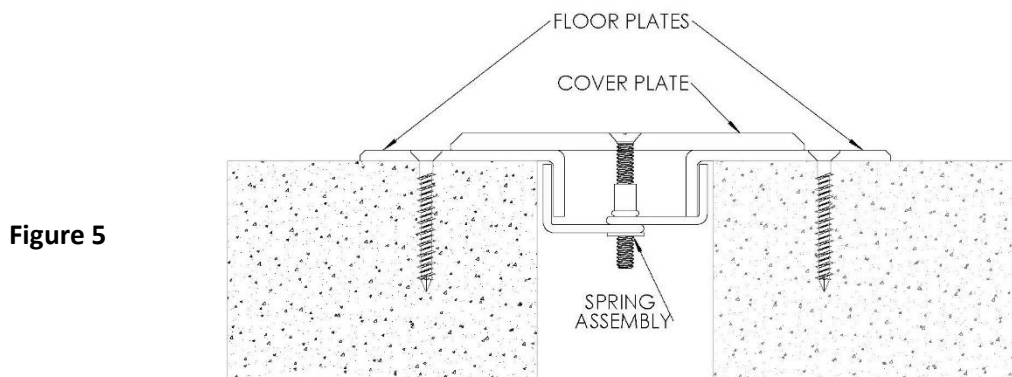
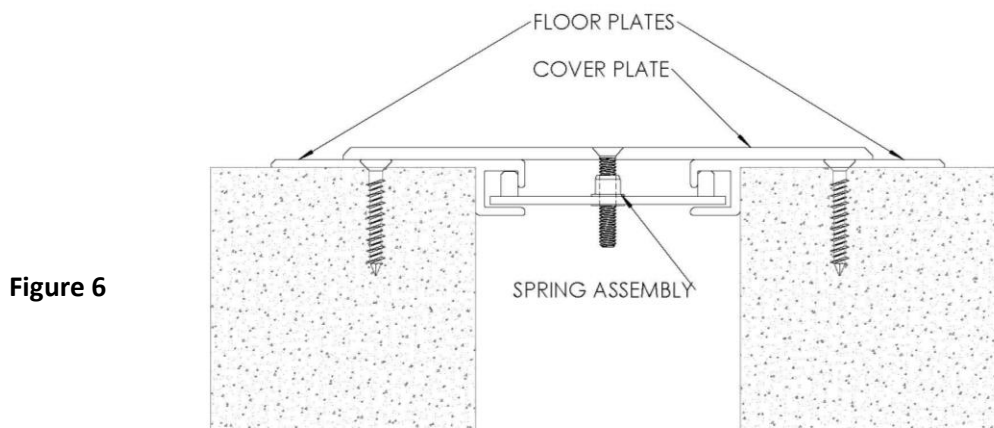

Figure 5
Figure 6
3. Position the cover plate centered over the floor plates and with the center hole aligned with the spring assemblies. Attach the cover plate to the spring assemblies with the provided spring screws. **See Figure 5 for 2” Sizes, Figure 6 for 4” & Larger Sizes**